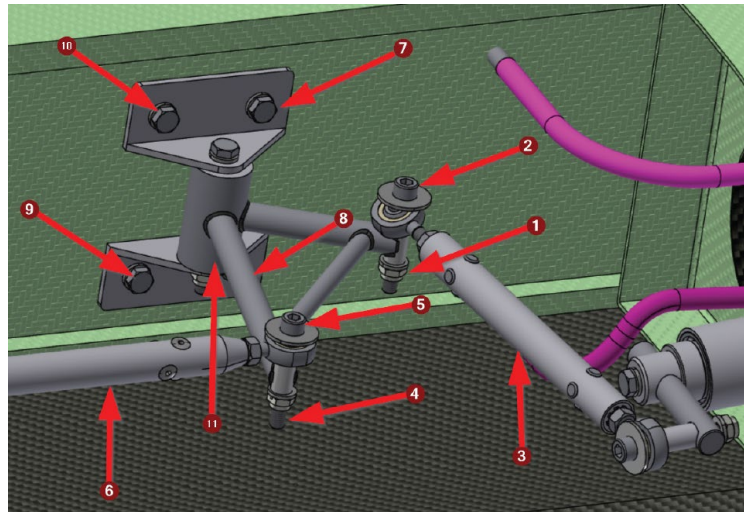

Figure 12 - Airbrake bellcrank assembly
3. Remove and discard nut (index 1 on Figure 12), remove washers and bolt (index 2 on Figure 12) and disconnect short air brake drive push rod (index 3 on Figure 12).
4. Remove and discard nut (index 4 on Figure 12), remove washers and bolt (index 5 on Figure 12) and disconnect long air brake drive push rod (index 6 on Figure 12).
5. Remove bolts (index 7,8,9,10 on Figure 12) and washers securing bell crank assembly (index 11 on Figure 12) on to wing. Discard nuts.
8. Apply Loctite 243 on threads and install bolts, washers and new self-locking nuts (index 7,8,9 and 10 on Figure 12). Tighten nuts (4 EA) in a cross pattern to 9 Nm. Mark heads/threads with torque stripe.
9. Connect long air brake drive push rod (index 6 on Figure 12) to bell crank. Install bolt (index 5 on Figure 12), washers, apply Loctite 243 to threads and install new nut (index 4 on Figure 12). Tighten nut to 9 Nm. Mark connection with torque stripe.
10. Connect short airbrake drive push rod (index 3 on Figure 12) to bell crank assembly. Install washers, bolt (index 2 on Figure 12), apply Loctite 243 to threads and install new nut (index 1 on Figure 12). Tighten nut to 9 Nm. Mark connection with torque stripe.